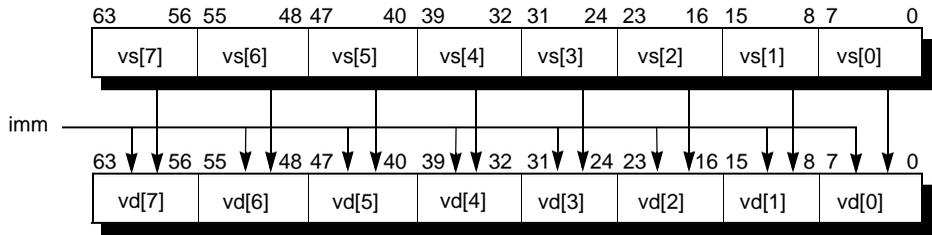

Figure 19-3 Vector-Immediate Operation
- **Vector-Immediate:** Each element of source vector vs is operated against an immediate value to produce destination vector vd , as shown in Figure 19-3.